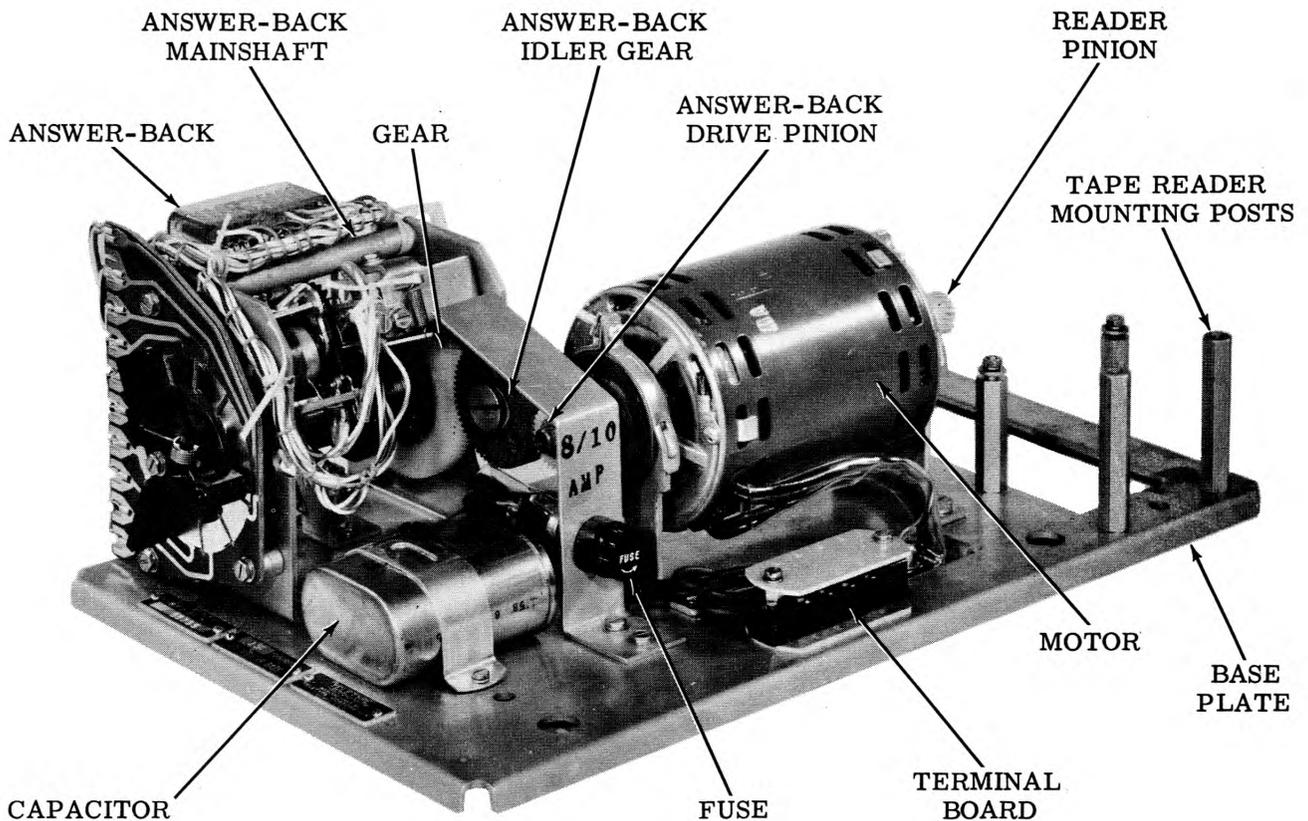

Figure 1 - 35 Tape Reader Base (Typical)
2.01 The operation of the tape reader base is fairly straightforward (Figure 1). A pinion affixed to one end of the motor shaft drives the tape reader directly or through an intermediate gear arrangement. The answer-back or distributor units may be driven from a rear motor pinion or through the intermediate gear arrangement.